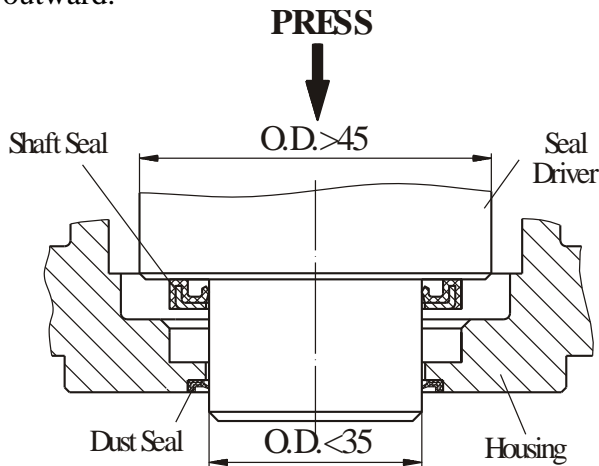

Fig.6
1. Place shaft seal in the bearing housing and firmly push with Seal driver (see Fig.6).